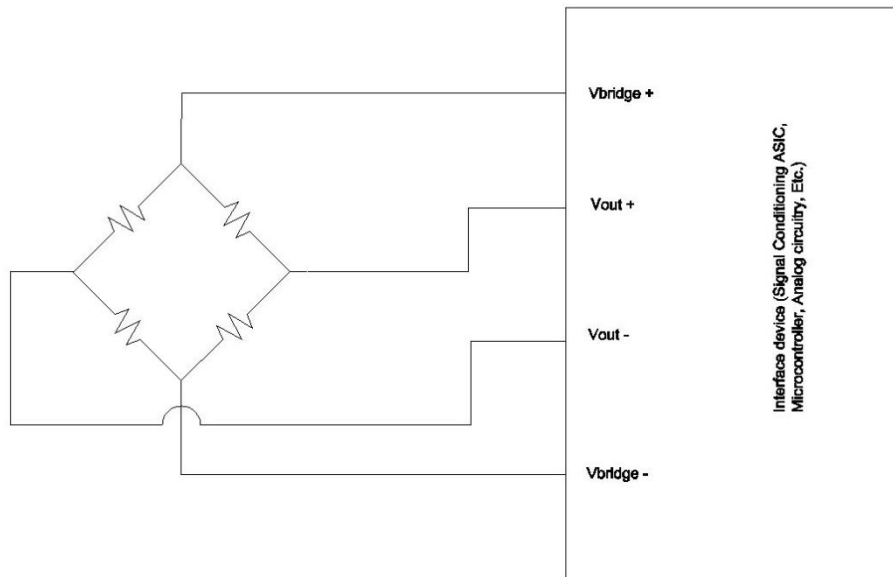
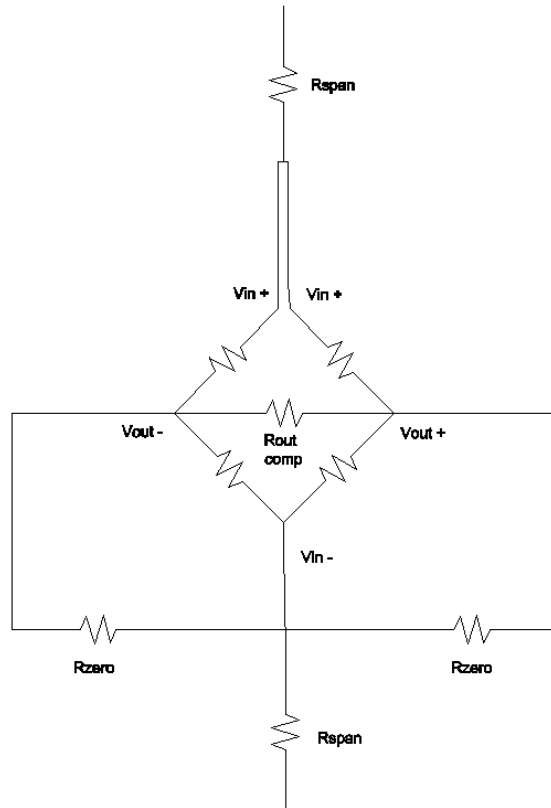
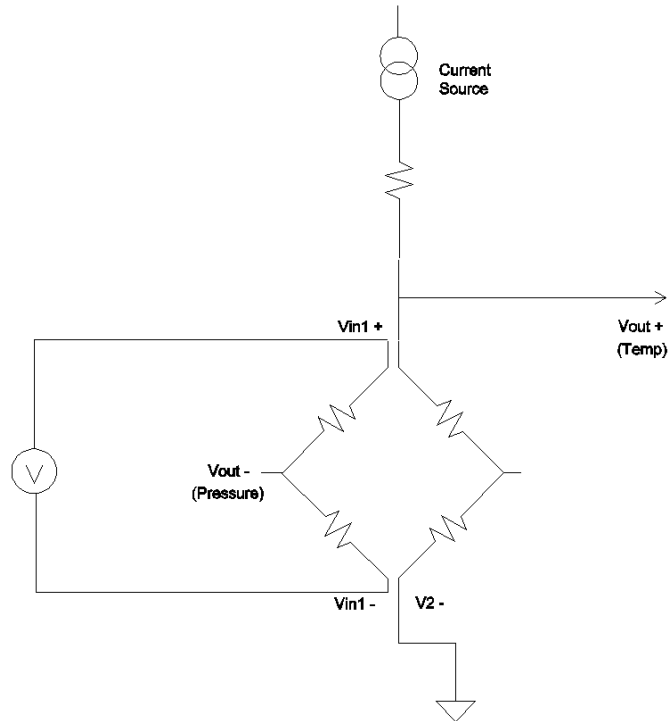

Figure 4 – Closed Bridge with Interface device (Signal Conditioning ASIC, Microcontroller, Analog circuitry, Etc.)
Figure 5 – Half open bridge with passive compensation
Figure 6 – Full open bridge with two functions
Figure 4 depicts a closed bridge with active compensation.
- b. *Half Open* – Active compensation can be applied to the half open bridge as in Figure 4 shown above. Passive compensation can also be applied to the half open bridge as seen below in Figure 5.
The implementation of a half open bridge with passive compensation in Figure 5 shows the added components as well as the extra electrical connection (Vin+) required to close the bridge. The additional resistors, as they are named, accomplish span, zero and output impedance compensation. These components need to be added after open bridge measurements have been taken at the required conditions.
- c. *Full Open* – The full open bridge has a wide variety of implementations. In addition to being used as a full open bridge it can be used as a half open (Figure 5) or a closed bridge (Figure 4). Figure 6 is an illustration of how a full open bridge could be used for two functions – temperature and pressure.